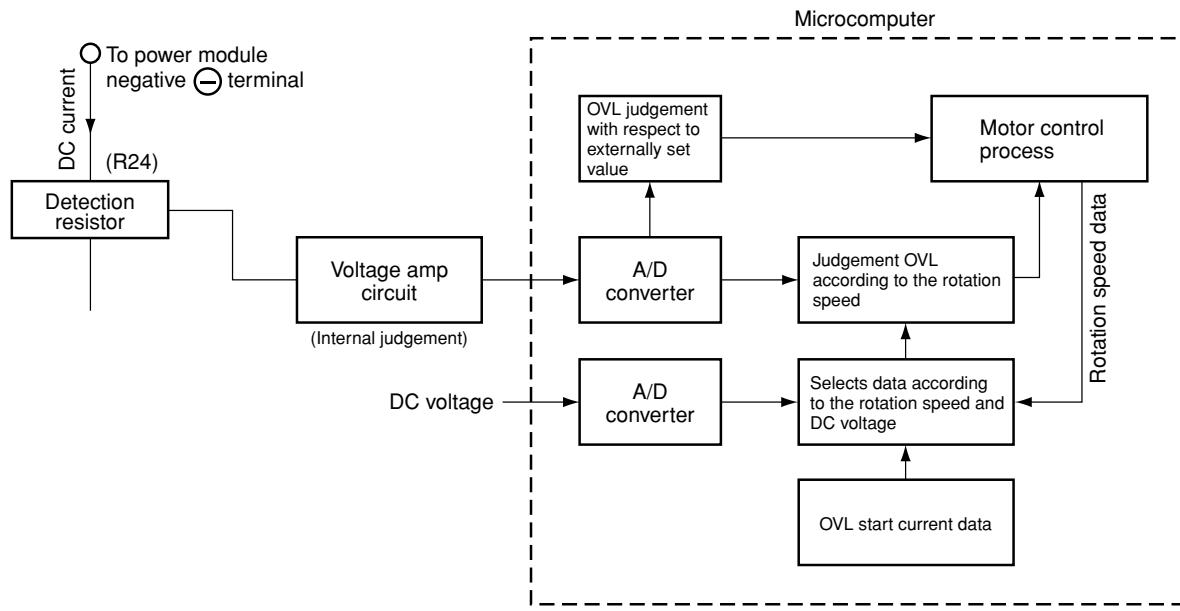
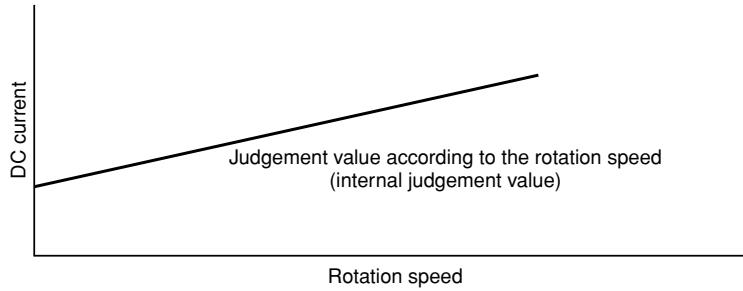

Fig. 8-4 Overload Control System Configuration
Fig. 8-5
- As shown in diagram, if current exceeding 21A (27A for RAC-50NH5) flows, voltage at point A recognized by detecting resistor is input to pin ⑩ of SPM2 – HIC, and voltage divided by R41 and R43 is input to pin ⑨ of IC1. Since threshold of IC1 is exceeded in this case, Lo signal is input from pin ⑧ (Voltage at point B). When Lo signal is input to pin ⑯ of microcomputer, microcomputer stops drive output.
(2) Overload control circuit (OVL control circuit)
- Fig. 8-4 shows the overload control system configuration and Fig. 8-5 is a characteristic diagram of overload judgement values. There are two judgement methods-external judgement which compares the externally set value with the DC current value regardless of the rotation speed and internal judgement which compares the set value that varies according to the rotation speed programmed in the microcomputer software with the DC current value.